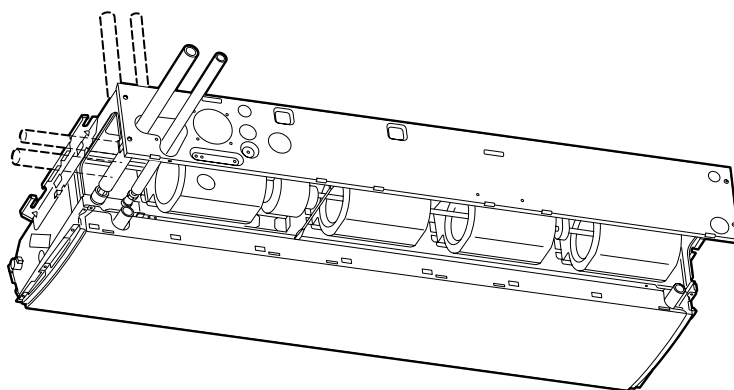

Fig. 3-94b
- * If the drain hose is routed through the left side, refer to Fig. 3-94b on page 58, and follow the procedure above to install the hose. Rettach the rubber stopper that was earlier removed onto the right side.